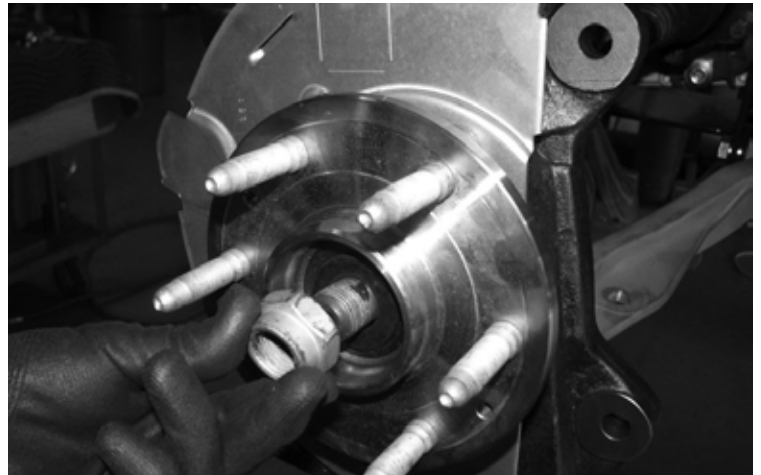

FIGURE 73 - STEP 43
43. Locate and install the factory hub assembly washer and nut using the provided thread lock. Torque to 150 ft-lbs **SEE FIGURE 73**